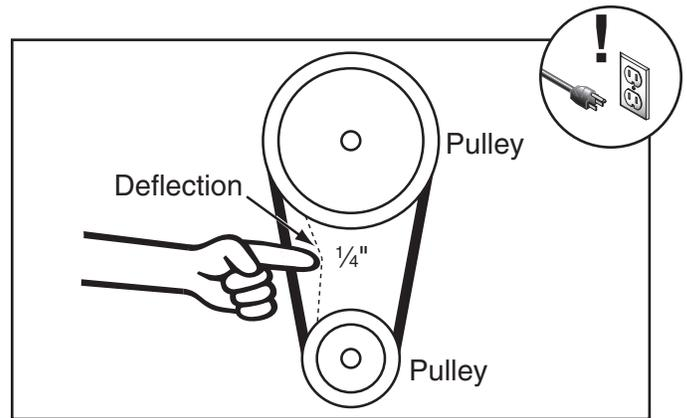

Figure 103. Correct timing-belt deflection.
5. Check the timing belt tension: It is correctly tensioned when there is approximately ¼" deflection when it is pushed with moderate pressure, as shown in **Figure 103**.